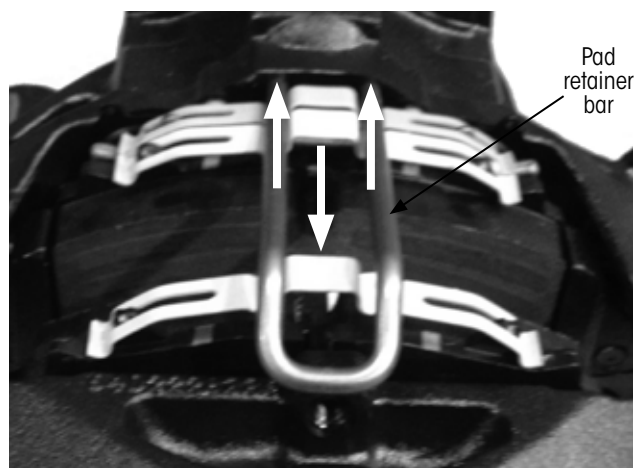

Figure 39: Installing pad retainer bar
10. **Insert** the pad retainer bar into the holes of brake caliper (Figure 39, arrows).